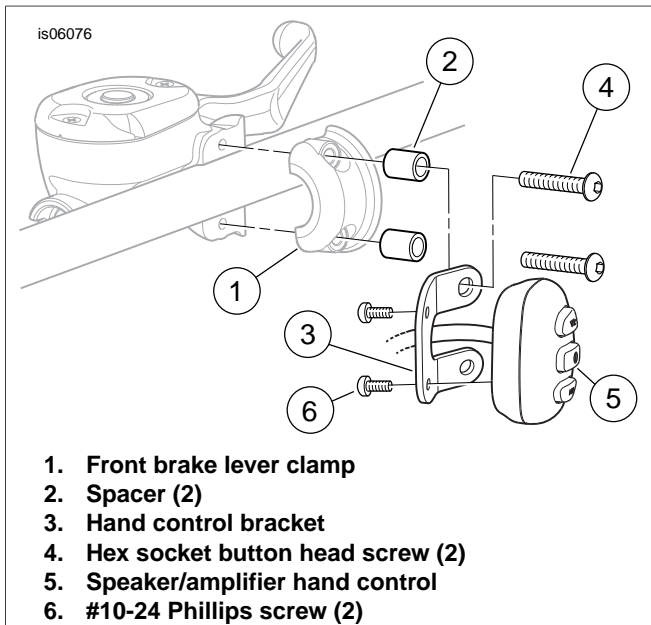

Figure 2. Hand Control and Bracket Installation
1. See Figure 2. Remove the front brake lever clamp screws from the vehicle. Remove and retain the clamp (1). The screws can be discarded.
- 2. Obtain the hand control bracket (3), two spacers (2), two screws (6) and:
- **for 2004 and later XL Sportster models:** two screws (4) from the kit.
- **for ALL OTHER models:** two screws (4) from the kit.
- 3. Route the hand control (5) wire harness through the center of the hand control bracket (3) as shown.
- 5. Install the hand control (5, part of the wire harness assembly) to the bracket with screws (6). Tighten securely.